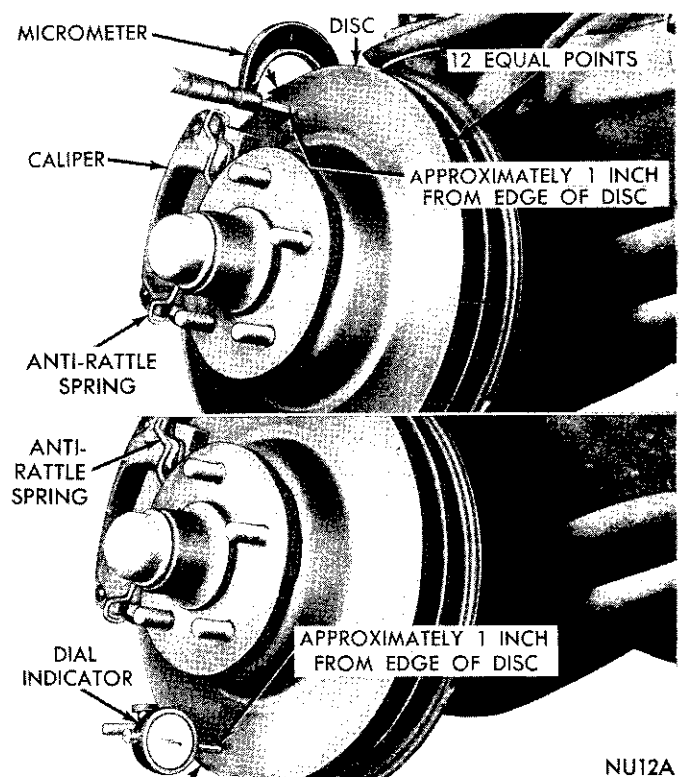

Fig. 19—Checking Braking Disc Run-out and Thickness
(1) Mount dial indicator C-3339 on steering arm
with plunger contacting disc approximately one (1) inch from edge of disc. (Fig. 19).
(2) With wheel bearings adjusted to zero end play, check lateral runout. (Both sides of disc). Runout should not exceed .0025 inch. If runout is in excess of specification, install a new disc and hub assembly or reface disc, being careful not to remove more than .015 inch from each side of disc. Be sure and readjust wheel bearings after check.
(3) Thickness variation of disc should be made in conjunction with runout. Measure thickness of disc at twelve (12) equal points with a micrometer at a radius approximately one (1) inch from edge of disc. If thickness measurements vary by more than .0005 inch, disc should be removed and resurfaced or a new disc and hub assembly installed. (Fig. 19).
(4) Light scoring and/or wear is acceptable, if heavy scoring or warping is evident, the disc must be refinished or replaced (See Refinishing (Refacing) Braking Disc). If cracks are evident the hub and disc assembly must be replaced.